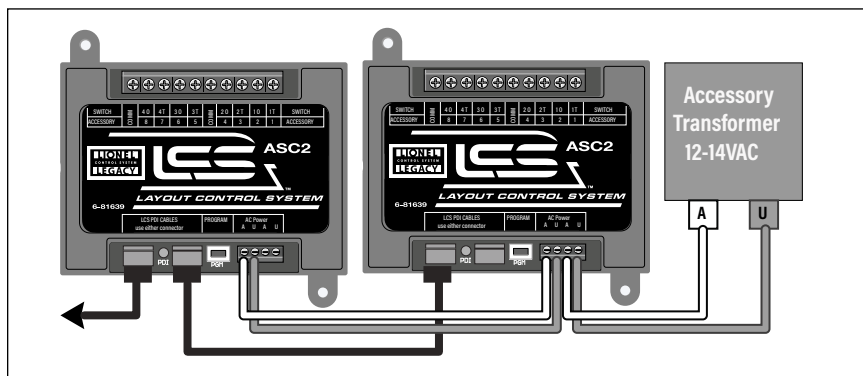

Figure 6. Connecting two ASC2 modules with LCS PDI cables and parallel external relay power
3. If your layout includes additional ASC2 or BPC2 devices, you can use the spare A and U terminals on the first unit to jumper power to your next ASC2 device as shown in Figure 6.